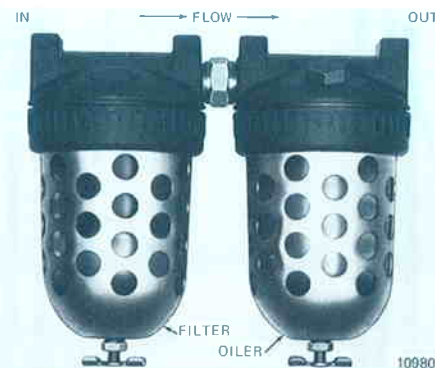

Figure 2-3. Air Filter and Lubricator Unit.
c. A filter and lubricator unit (Figure 2-3) must be installed between air source and air hose leading to hoist. These keep air flowing to hoist free of dirt and add lubricant to air so internal parts of motor are constantly lubricated. Use Air Hoist Motor Oil or good grade 10W machine oil (approximately viscosity 150 SSU at 100°F). Multi-viscosity, detergent type engine oil is not recommended. Feed one drop of oil for every 50 to 75 cubic feet of air going through the air motor.